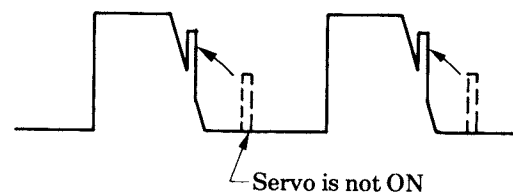

Fig. 73
4. Fully turn R1120 counterclockwise, and then gradually return it clockwise to set it just after the pulse of TP24C locks on trapezoid waveform of TP25C as shown in Fig. 73.